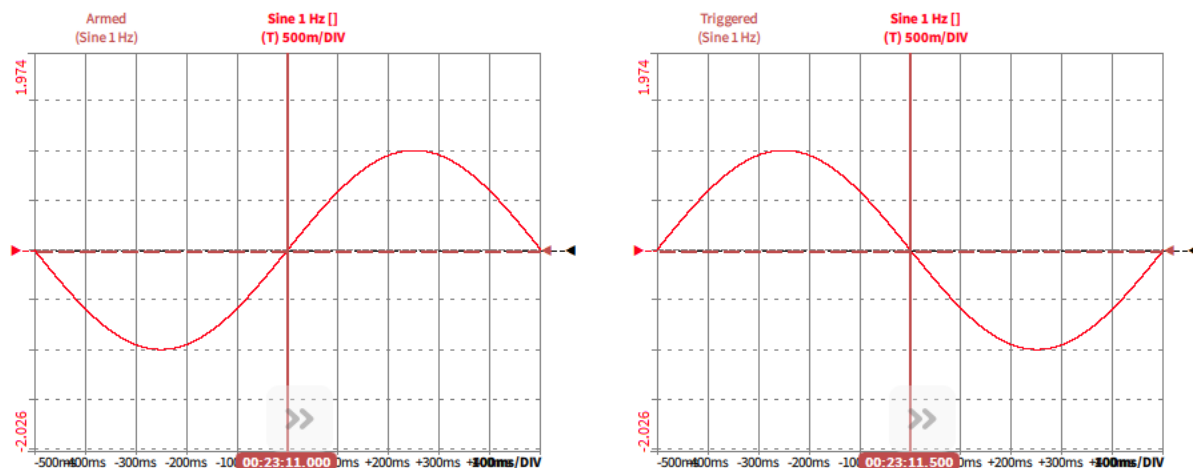

Fig. 8.37: Trigger on a *Rising* (left) and on a *Falling* (right) edge
- In the *Edge* selection, the user can select if the selected signal shall be triggered on a *Rising* or on a *Falling* edge. The difference between the two modes is shown in Fig. 8.37 for a 1 Hz sine wave that has an amplitude of 1.